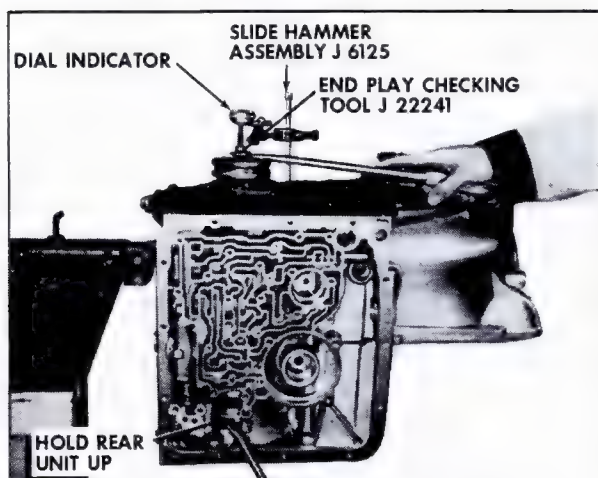

Fig. 7-167 Checking Front Unit End Play
urethane on the tool can engage the splines in the forward clutch housing. Let the tool bottom on the mainshaft and then withdraw it approximately 1/8 inch and tighten nut on tool, Fig. 7-167.
3. Mount Dial Indicator, J-8001, on slide hammer bolt and index indicator to register with the Front Unit End Play Checking Tool, J-22241, Fig. 7-167, and push tool down to remove slack.